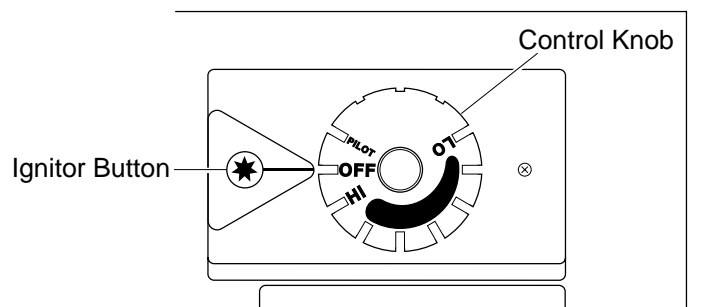

Figure 21 - Control Knob In The OFF Position
4. Wait five (5) minutes to clear out any gas. Then smell for gas, including near the floor. If you smell gas, STOP! Follow "B" in the safety information at the top of page 19. If you don't smell gas, go to the next step.
5. Turn control knob counterclockwise  to the PILOT position. Press in control knob for five (5) seconds (see Figure 21, page 19).